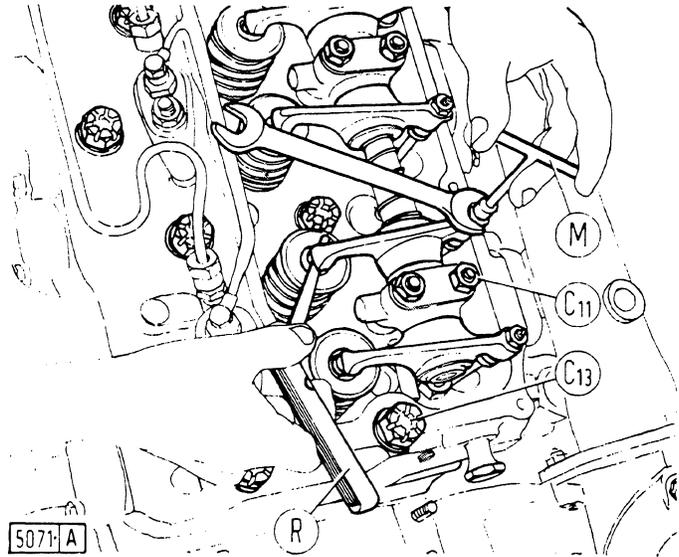

Fig. 24 - Adjusting the Valve Clearance
For valve clearance adjustment, use spanner **290886** (M, Fig. 24) and feeler gauge (R). The correct clearance is .30 mm (.012 in.) for inlet valves and .40 mm (.016 in.) for exhaust valves.